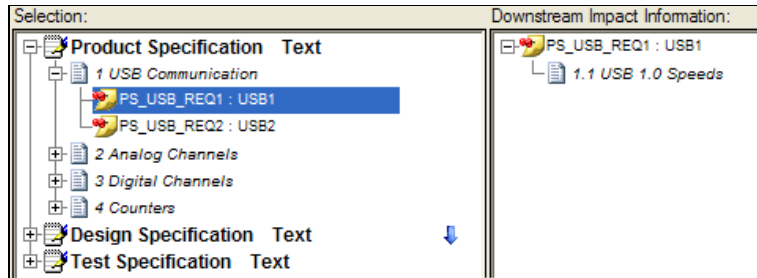

Figure 4-12. PS_USB_REQ1 Downstream Impact Analysis
- Expand the **Product Specification** document and select the **PS_USB_REQ1** requirement, as shown in Figure 4-12. The Downstream Impact Information column displays only the covering 1.1 USB 1.0 Speeds section from the Design Specification document because the 1.1 USB 1.0 Speeds section does not contain any non-derived requirements that are covered by the Test Specification document.